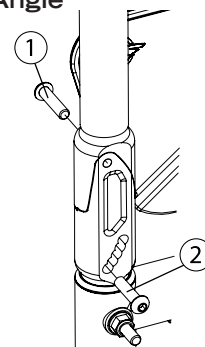

Fig. 11
- Loosen screw (1) (Fig. 11) and remove screw (2) from the levelling device.
- Reinstall screw (2) and tighten both screws to fit snugly.